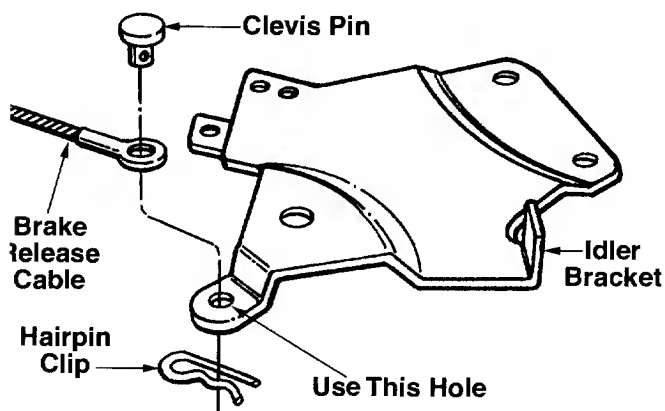

FIGURE 8.—Underneath Tractor
11. Secure the brake release cable to the tractor idler bracket with clevis pin and small hairpin clip, using the hole in the idler bracket as shown in figure 8.